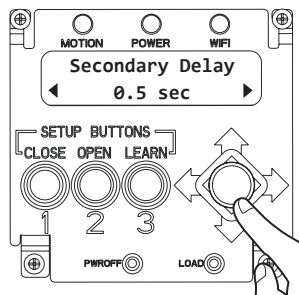

Figure 17
- Set **Secondary Delay** time (if the secondary door needs to stall slightly before opening). (Figure 17)